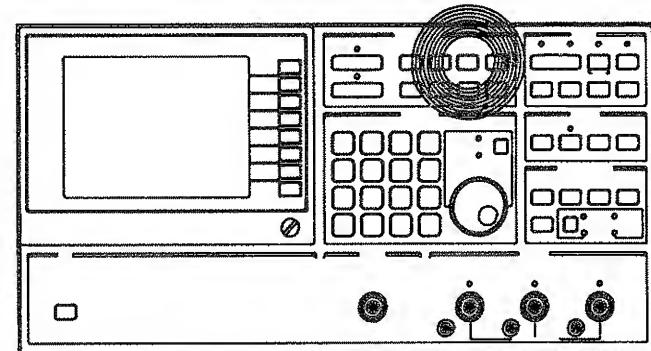

Figure 4•43A
**SCALE** is a hardkey in the DISPLAY FORMAT section of the front panel used to display the menus of softkeys shown in Figure 4•43B. These softkeys may be used to modify the vertical axis scale and value of the reference line. None of the SCALE features require a new measurement sweep when their values change (unless in Alternate sweep). Each uses data stored in trace memory to reconfigure the screen.